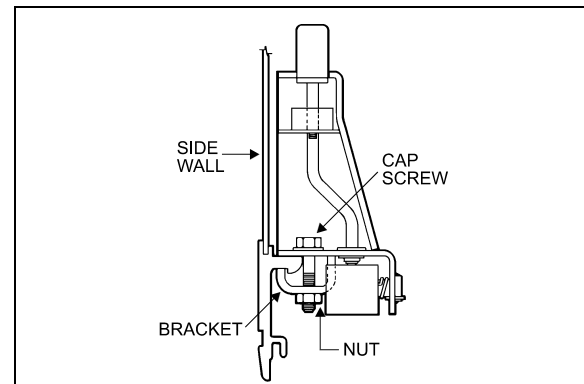

FIGURE 87: ARMREST
4. Remove 2 cap screws, nuts, and washers holding seat frame to side wall and retain the 2 holding brackets. See Figure 87.